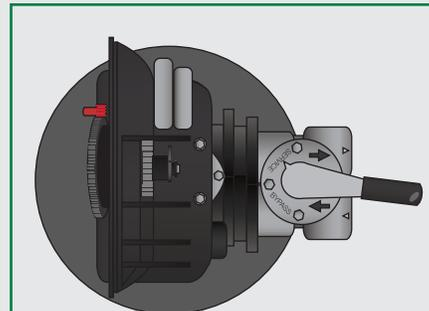

Figure 8 - System in SERVICE position.
8. After the **Manual Rinse Cycle** has been completed, rotate the valve control lever to the **SERVICE** position. Make sure the control lever is in the full **SERVICE** position. [See Figure 8]